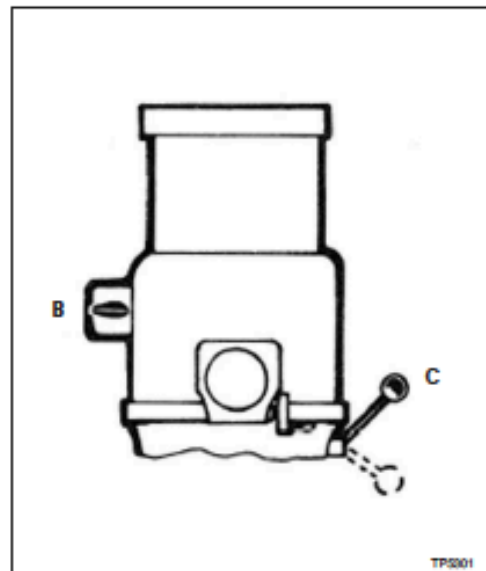

Figure 2.17 - Back Gear Range Change
1. Switch "B", Figure 2.17, to OFF (Stop spindle rotation).